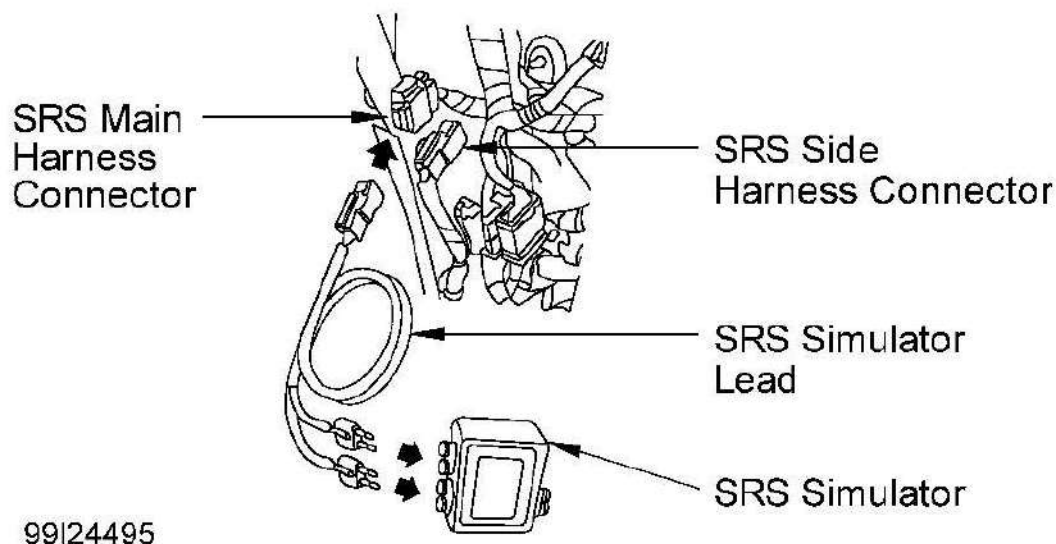

Fig. 30: Locating Right Side Wire Harness
4. Disconnect negative battery cable and wait 3 minutes. Disconnect simulator and simulator lead. Disconnect SRS side harness 4-pin connector (located under center console, between SRS unit and rear blower motor, clipped to instrument panel support) from SRS main wire harness 4-pin connector. See **Fig. 30** . Connect SRS Simulator Lead "D" (07XAZ-SZ30100) and SRS Inflator Simulator (07SAZ-TB4011A) to SRS main harness 4-pin connector. Reconnect negative battery cable. Erase DTC memory. Retrieve DTCs. If DTC 4-1 is indicated, go to next step. If DTC 4-1 is not indicated, replace right SRS side wire harness.
blower motor, clipped to instrument panel support) from SRS main wire harness 4-pin connector. See **Fig. 30** . Connect SRS Simulator Lead "D" (07XAZ-SZ30100) and SRS Inflator Simulator (07SAZ-TB4011A) to SRS main harness 4-pin connector. Reconnect negative battery cable. Erase DTC memory. Retrieve DTCs. If DTC 4-3 is indicated, go to next step. If DTC 4-3 is not indicated, replace right SRS side wire harness.
4. Disconnect negative battery cable and wait 3 minutes. Disconnect simulator and simulator lead. Disconnect SRS side harness 4-pin connector (located under center console, between SRS unit and rear blower motor, clipped to instrument panel support) from SRS main wire harness 4-pin connector. See **Fig. 30** . Connect SRS Simulator Lead "D" (07XAZ-SZ30100) and SRS Inflator Simulator (07SAZ-TB4011A) to SRS main harness 4-pin connector. Reconnect negative battery cable. Erase DTC memory. Retrieve DTCs. If DTC 4-4 is indicated, go to next step. If DTC 4-4 is not indicated, replace right SRS side wire harness.
4. Disconnect negative battery cable and wait 3 minutes. Disconnect simulator and simulator lead. Disconnect SRS side harness 4-pin connector (located under center console, between SRS unit and rear blower motor, clipped to instrument panel support) from SRS main wire harness 4-pin connector. See **Fig. 30** . Connect SRS Simulator Lead "D" (07XAZ-SZ30100) and SRS Inflator Simulator (07SAZ-TB4011A) to SRS main harness 4-pin connector. Reconnect negative battery cable. Erase DTC memory. Retrieve DTCs. If DTC 4-5 is indicated, go to next step. If DTC 4-5 is not indicated, replace right SRS side wire harness.